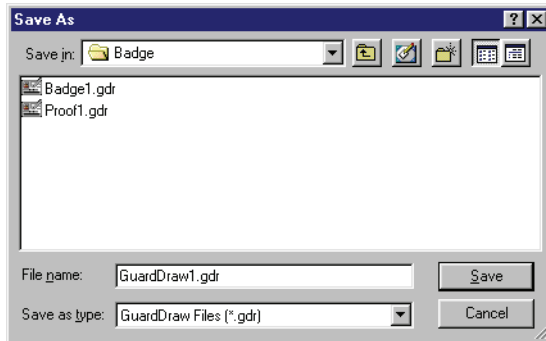

Figure 9-12: The Save As Window
1. Click the File ⇒ Save pull-down menu. The Save As window appears (see Figure 9-12).